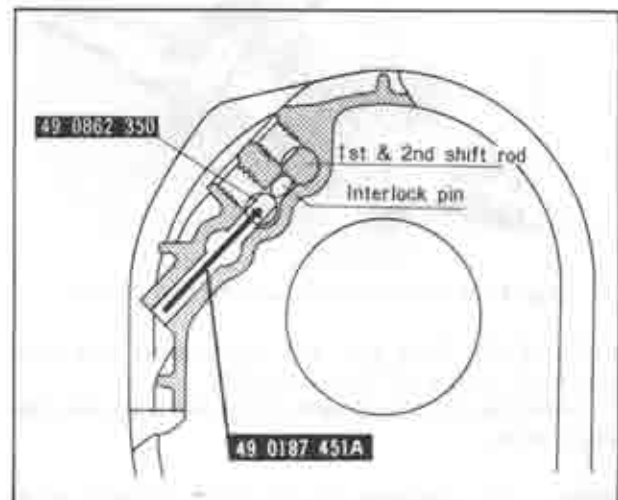

Fig. 7-25 Installing inter-lock pin (1)
25. Using the guide (49 0862 350) and guide (49 0187 451A), insert the interlock pin, as shown in Fig. 7-25.